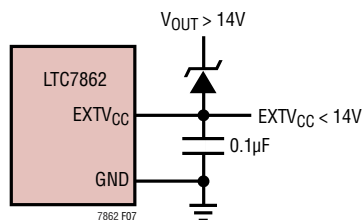

Figure 7. Using a Zener Diode Between V_{OUT} and $EXTV_{CC}$
4. $EXTV_{CC}$ connected to the regulator output through an external zener diode. If the output voltage is greater than 14V, a zener diode can be used to drop the necessary voltage between V_{OUT} and $EXTV_{CC}$ such that $EXTV_{CC}$ remains below 14V (Figure 7). In this configuration, a bypass capacitor on $EXTV_{CC}$ of at least 0.1 μ F is recommended. An optional resistor between $EXTV_{CC}$ and GND can be inserted to ensure adequate bias current through the Zener diode.